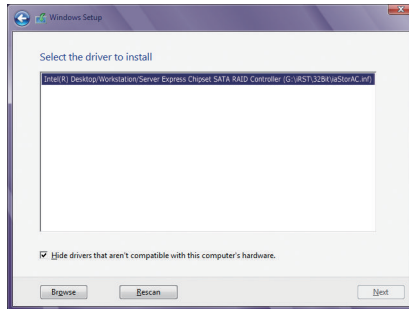

Figure 1
When a screen as shown in Figure 1 appears, select **Intel(R) Desktop/Workstation/Server Express Chipset SATA RAID Controller (G:\IRST\32Bit\up01xAK\IR)** and click **Next** to load the driver and continue the OS installation